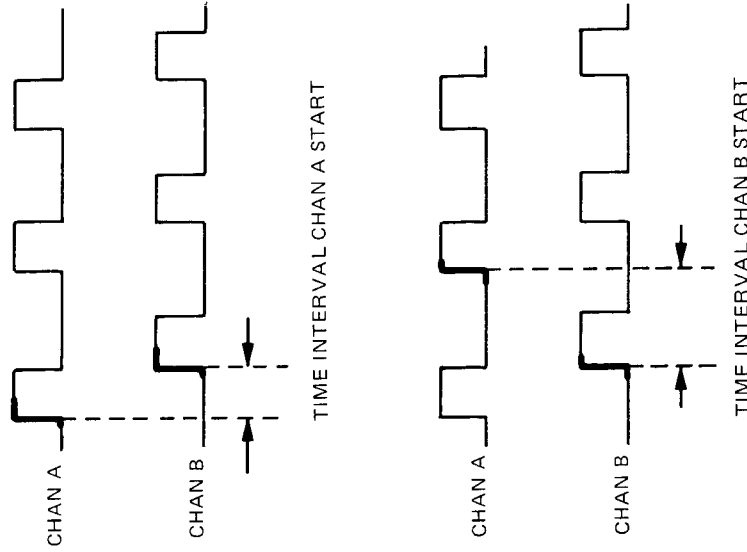

Figure 6. Time Interval Start Selection
**Dual-Channel Display.** The A START/B START switch **19** eliminates the requirement of always applying the start event to channel A. To make a measurement from some point on the channel A trace to a point on the channel B trace, the time-interval mode switch is set to A START. The START marker will appear on the channel A trace and the STOP marker will appear on the channel B trace. When the two points are adjusted to overlap, the time-interval STOP dial **18** and DMM will indicate the space between the two markers. Then to make a corresponding measurement from some point on the channel B trace back to some later point on channel A, the A START/B START switch **19** is set to B START. The signals and channels are undisturbed. Only the two markers change places. (See figure 6.)